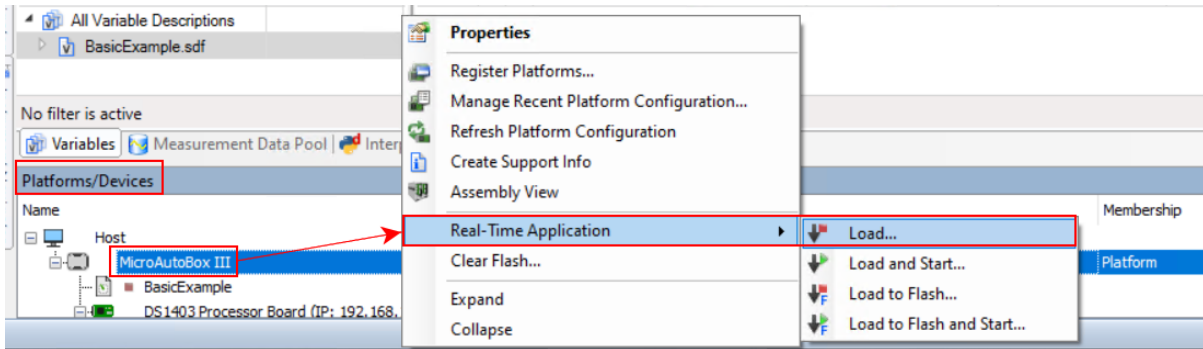
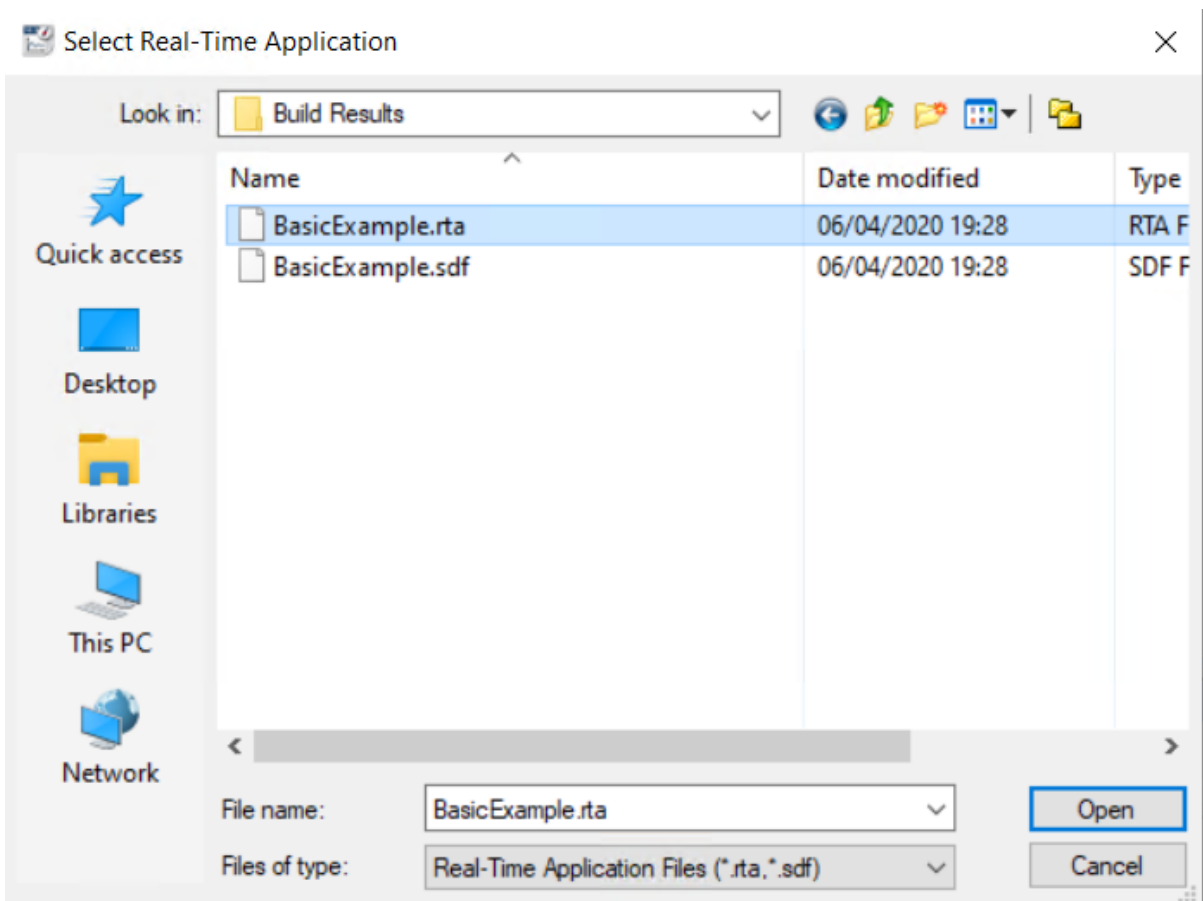

Figure 12.83: Load the application on the dSPACE MicroAutoBox III.
Figure 12.84: Select BasicExample.rta from the ConfigurationDesk project folder.
- 9) Application should have already been loaded from the building of ConfigurationDesk. Otherwise, select the Platforms/Devices tab. Right-Click on your platform and select Real-Time Application>Load. Choose the executable file BasicExample.rta (see Figure 12.83 and Figure 12.84).